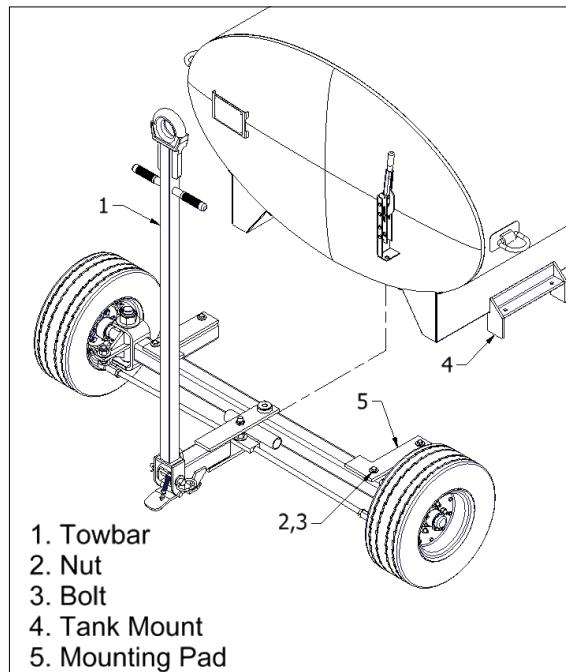

Figure 4-6 Front Undercarriage Removal
- e. Remove bolts (2) and nuts (3), (see Figure 4-6).
- g. Pull Front Undercarriage forward. Note location of rubber mounting pads (5).